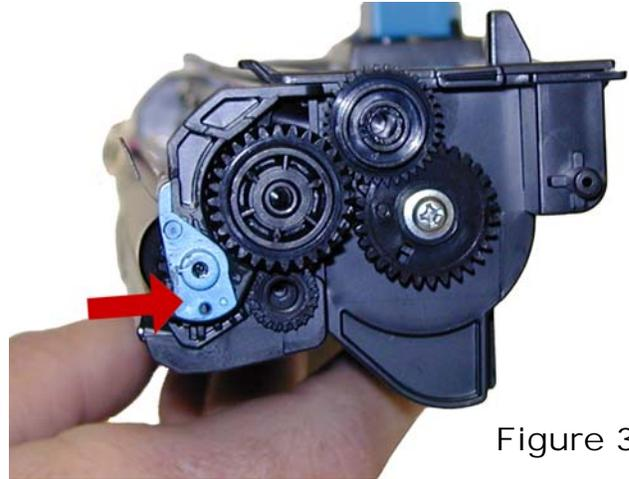

Figure 3
4) Remove the blue colored bushing from the left side. See **Figure 3**